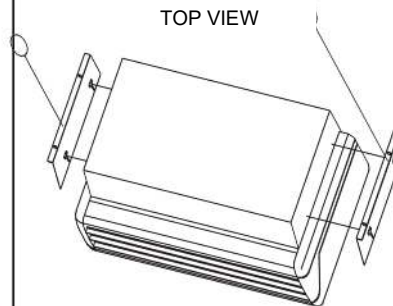

Figure 8
- (8) Secure the unit to the ceiling using the supplied mounting hardware. See figure 8, 9 and 10